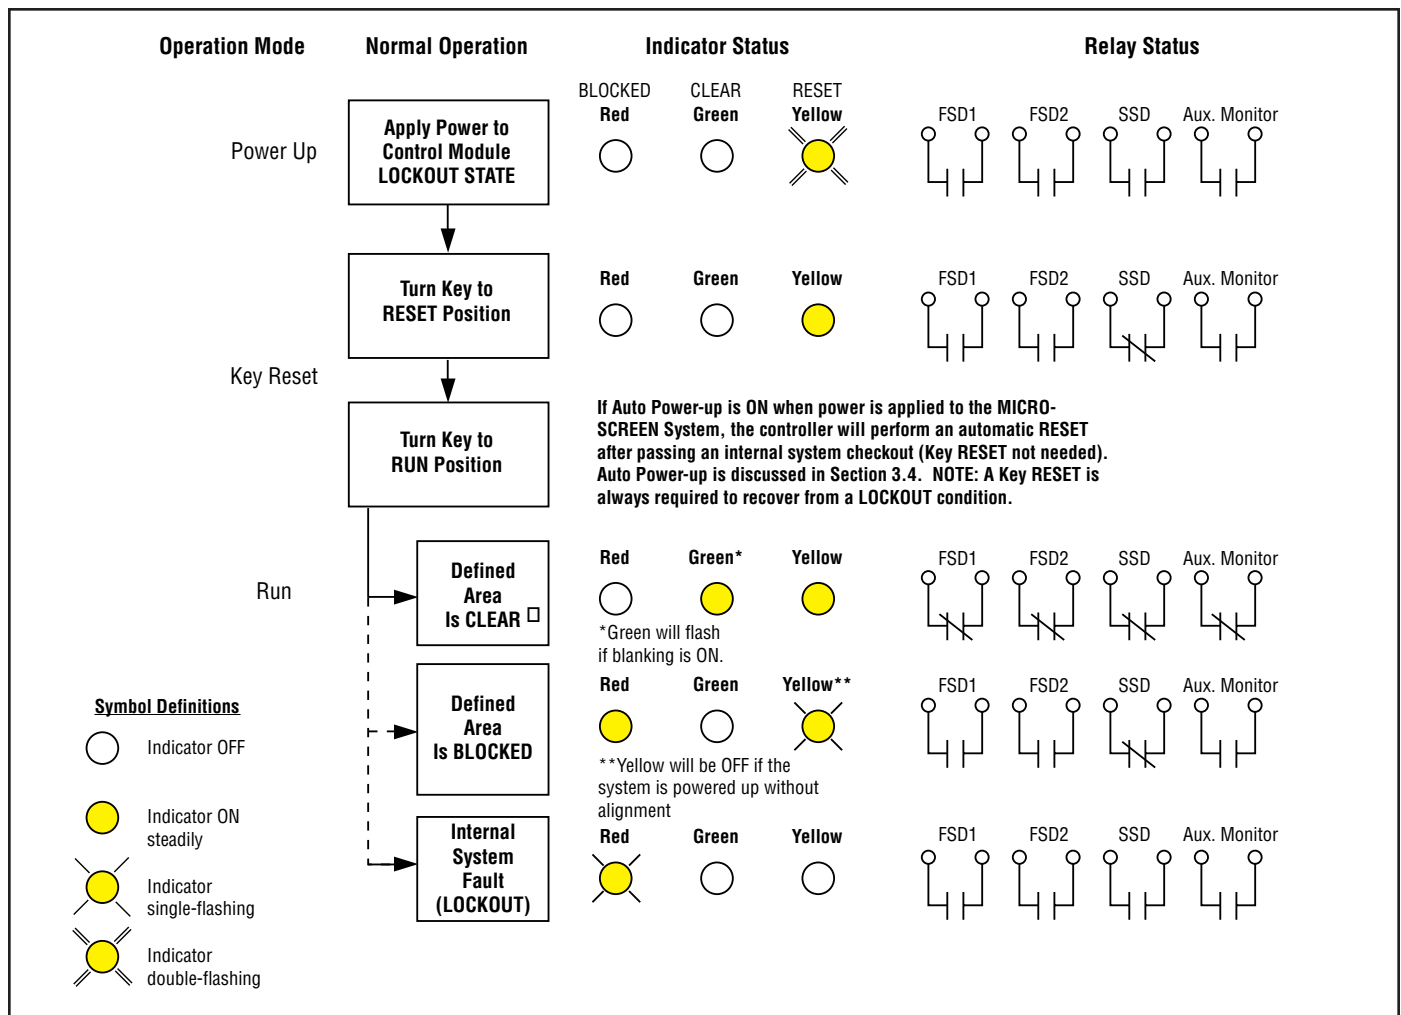

Figure 5. Operating status conditions
- Routinely upon power-up of the MICRO-SCREEN System (unless Auto Power-up is ON; see Figure 5, page 11); or
- If power to the MICRO-SCREEN System is interrupted (unless Auto Power-up is ON; see Figure 5).
A lockout condition resulting from an internal system fault is indicated by a flashing red status indicator on the control module and the receiver unit. The green and yellow status indicators will be OFF. See Fig. 5, page 11.